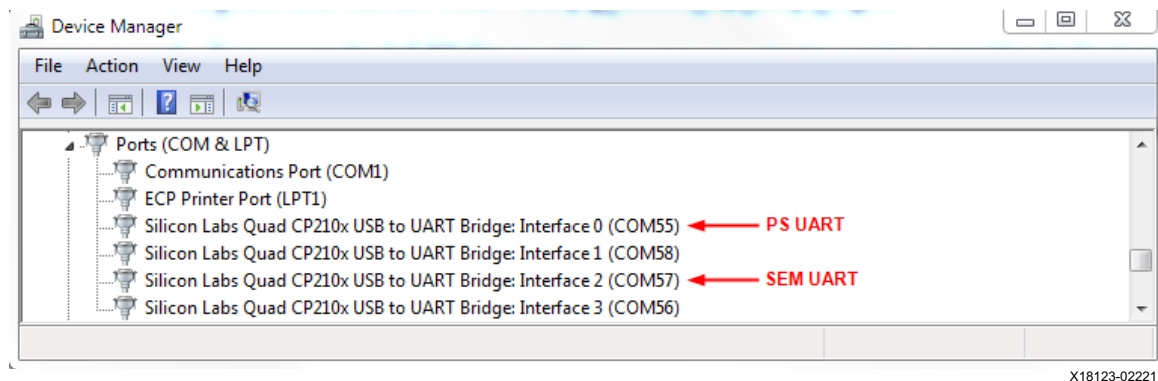

Figure 34: COM Port Selection
- b. In Tera Term, select the **COM XX** port associated with the **Silicon Labs Quad CP210x USB to UART Bridge: Interface 0 (COMXX)** for the PS UART and **Silicon Labs Quad CP210x USB to UART Bridge: Interface 2 (COMXX)** for the SEM UART in the **Device Manager**, where **COM XX** depends on your computer. See Figure 34.